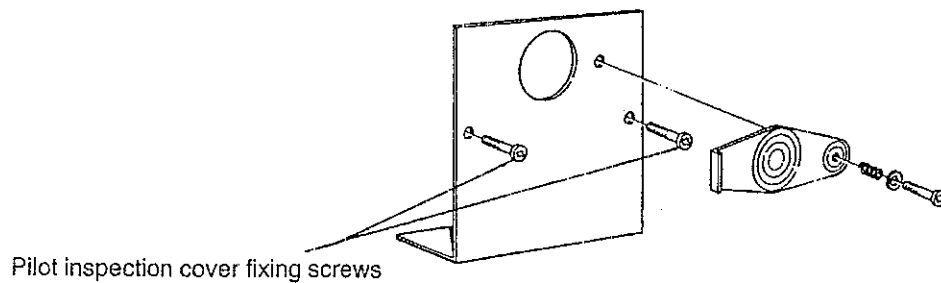

Fig. 32
- d) Remove the pilot inspection cover 2 screws (fig. 32).
- e) Remove the pilot pipe/thermocouple retaining plate, 2 screws (fig. 32).
- Remove pilot inspection cover, 2 screws (fig 32).